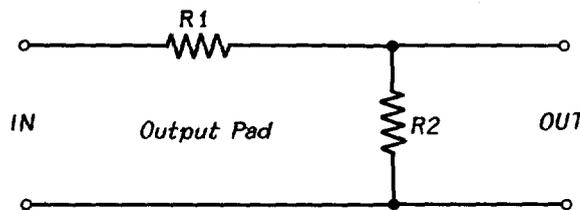

Fig. 1 — Suggested Output Pad Arrangement
**2.09** Amplifier gain is measured between 600-ohm impedances with the amplifier furnishing about 1 watt of power (+ 30 dbm). Fig. 1 shows a suggested arrangement of the output pad referred to in Paragraph 2.07. R1 is a 562-ohm resistor and must dissipate approximately 1 watt of power. R2 is a 38-ohm  $\frac{1}{2}$  or 1-watt resistor. If available, an 18A (37-ohm) resistor and an 18BD